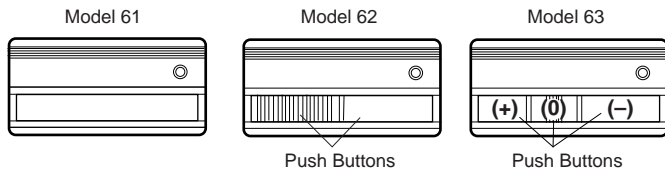

**Figure 1**
**NOTE:** Code switch #1 on the multi-function transmitter is dormant, when used with a single function transmitter. Set code switch #1, in the single-function transmitter, to match the push button selected on the multi-function transmitter (Figure 1).